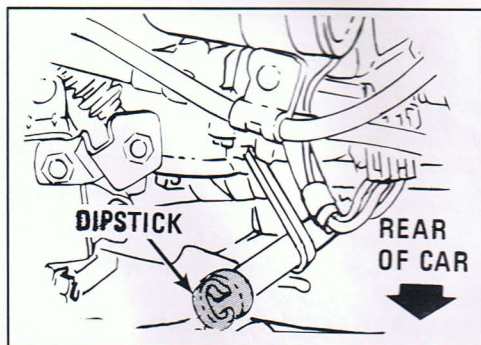

Figure 1 - Rear of engine (looking straight down)
2. Remove the dipstick located at the rear of the engine compartment. See Figure 1. Carefully touch the wet end of the dipstick to find out if the fluid is at least room temperature. If it feels cold, replace the dipstick and drive the car for at least five miles before checking again. If the fluid is at room temperature or hotter, clean the dipstick and push it back in until the cap seats. Pull out the dipstick and read the fluid level. The level should be in the cross-hatched area on the dipstick.